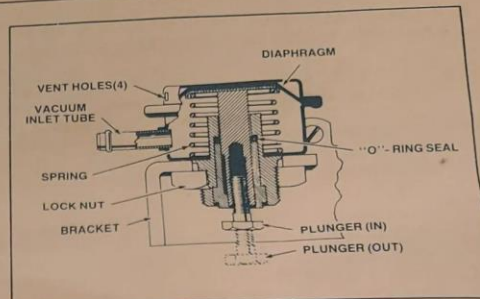

Figure 7-3. Throttle Lever Actuator (4.8L and 5.7L Gasoline Engines)
The throttle lever actuator (Fig. 7-3 and 7-4) is part of the carburetor assembly. When vacuum is applied to its diaphragm, a plunger is extended (pushed out) toward the throttle lever. The plunger will keep the throttle from returning to curb idle until the vacuum is released.
2. Start the engine and, with the transmission in "Neutral," advance the throttle to the indicated 1890 RPM (TRC system activation value is 1825 RPM \pm 65 RPM). The throttle lever actuator (Fig. 7-3) should be **extended** at this speed.